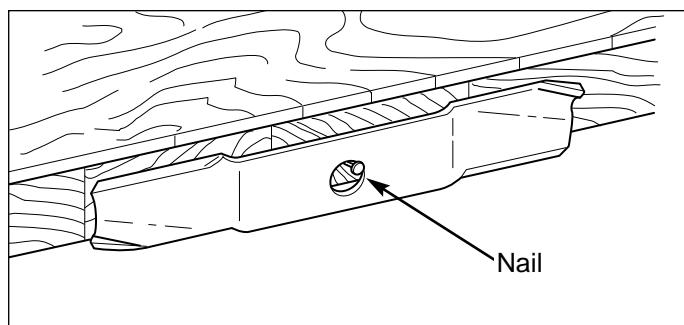

Figure 14. Balancing The Blade
4. Balance the blade as shown in Figure 14. Center the blade's hole on a nail lubricated with a drop of oil. A balanced blade will remain level.